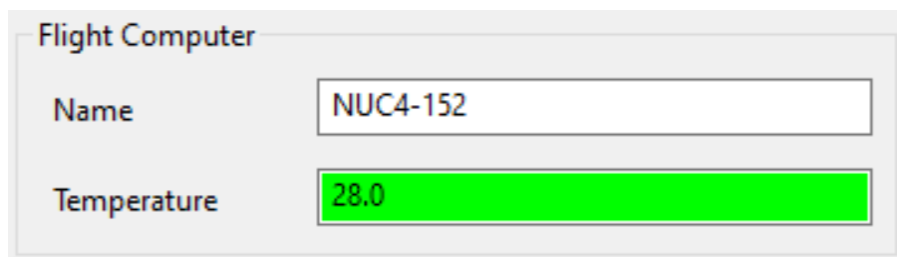

Fig. 5.1: An example of the ground station Name setting when connected to a NUC Generation 4 flight computer
1. Determine your flight computer generation from the Name setting in the ground station, as shown in Fig. 5.1, which is the number directly after 'NUC.'